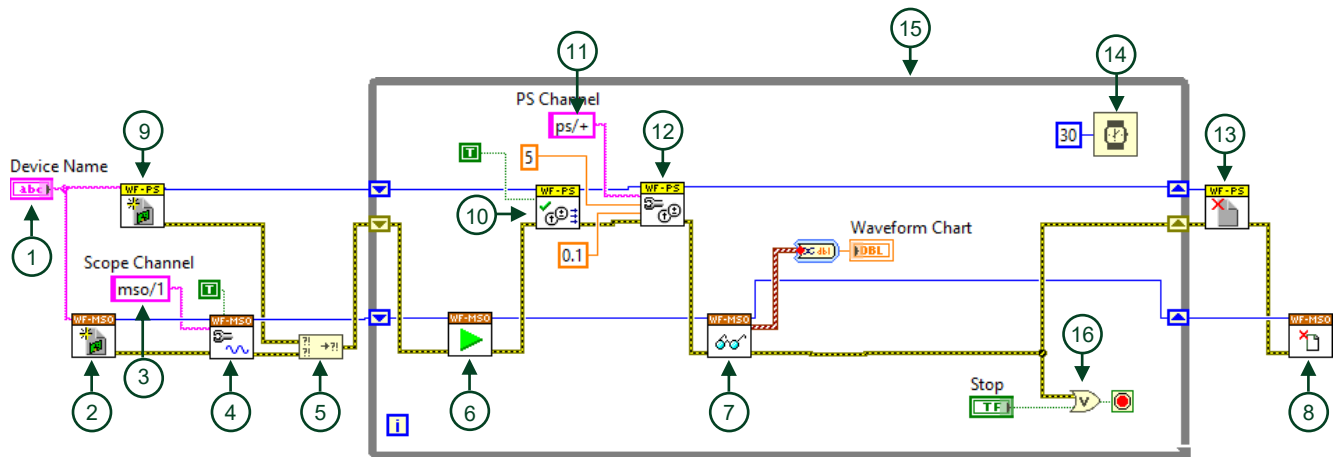
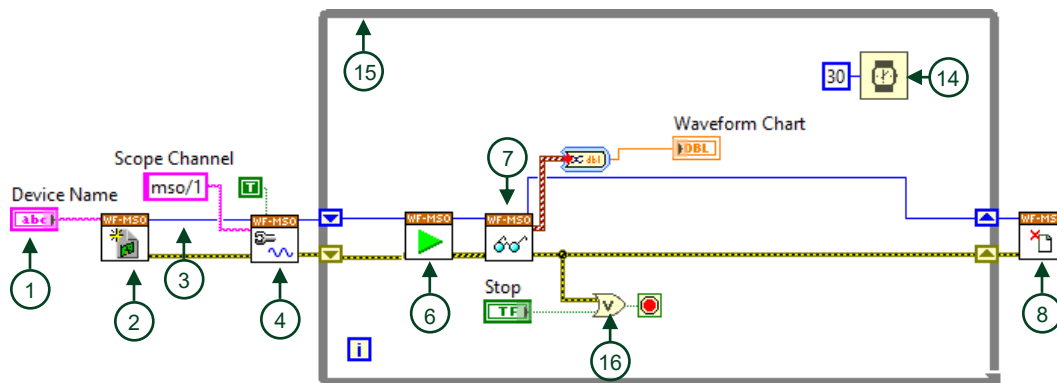

Figure 8a. VI Block Diagram for Push-Button Signal Visualization for AD3
Figure 8b. VI Block Diagram for Push-Button Signal Visualization for ADS and ADS MAX
- 2.1. Modify the block diagram as shown in **Figure 8a** and **Figure 8b**.
Figure 8a shows the LabVIEW block diagram code applicable only to Analog Discovery 3. **Figure 8b** shows the LabVIEW block diagram code applicable only to the **Analog Discovery Studio** and **Analog Discovery Studio MAX** devices.